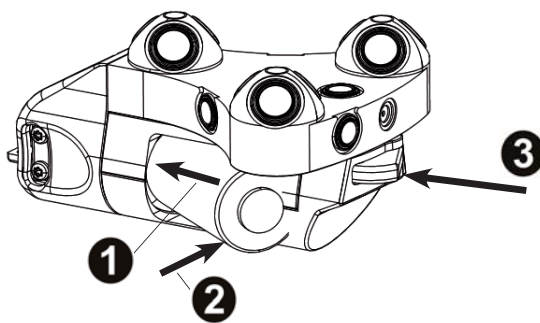

Figure 2: Battery Installation
- Just prior to surgery, load the battery into the battery holder, pressing in the negative end first **(1)** and then the positive end **(2)** against the spring. See *figure 2*.
- Once in system setup mode and prompted by the software interface, press the SELECT button **(3)** to initialize the tracker (see *figure 2*).